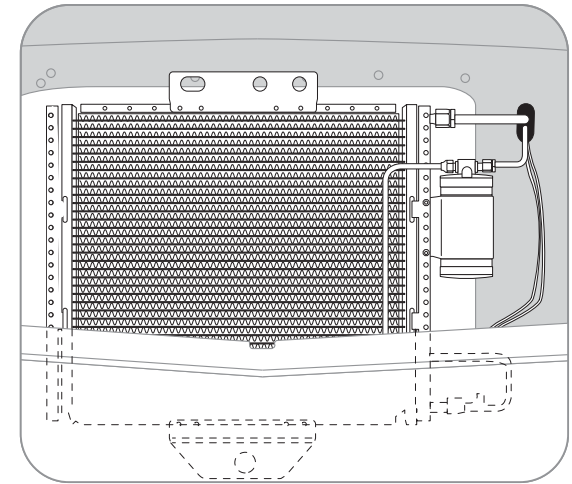

FIGURE 33
**STEP SIX:** You'll route the new discharge hose to the compressor thru the previously drilled hole in the radiator support, as well as the liquid hose and the wiring harness plug for the high/low safety switch (see figure 33).
**STEP SEVEN:** Place the condenser/drier unit into place, locating it so that the holes in the condenser brackets align with the holes in the core support used to attach the hood latch (it will rest on the lower radiator core brace, see figure 33).